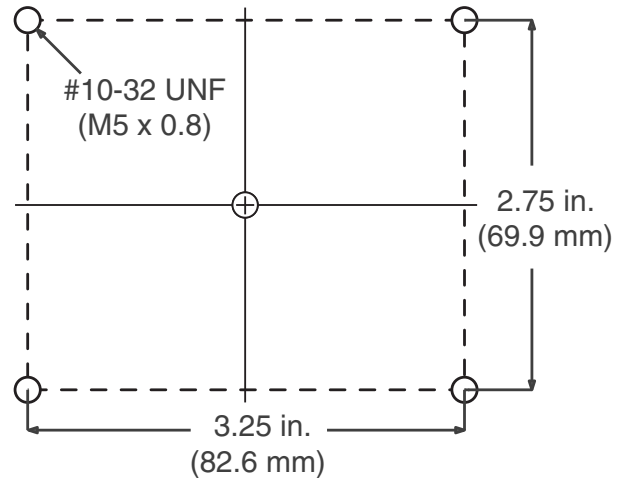

FIG. 33: CGM Mounting Holes
4. Drill the mounting holes using the mounting hole dimensions shown in FIG. 33.